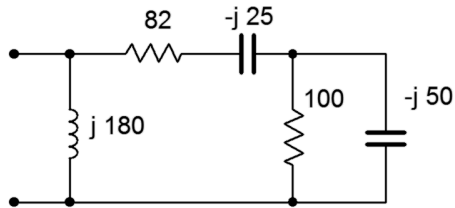

Figure 4.6
6. Determine the impedance of the circuit of Figure 4.6.